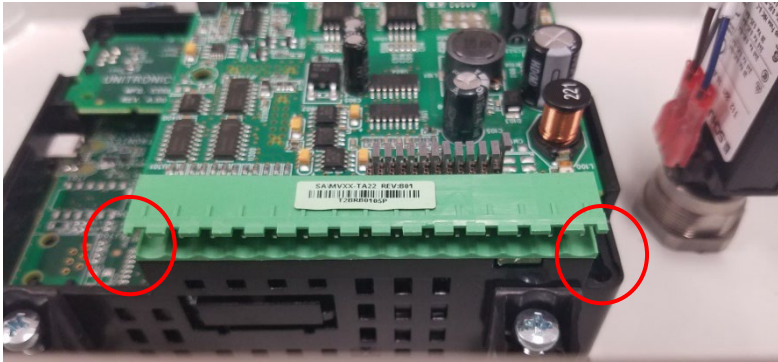

Figure 89. Gently Push Down on Board
- d. Gently push the board down until the green strip is resting on the housing. **Refer to Figure 89**